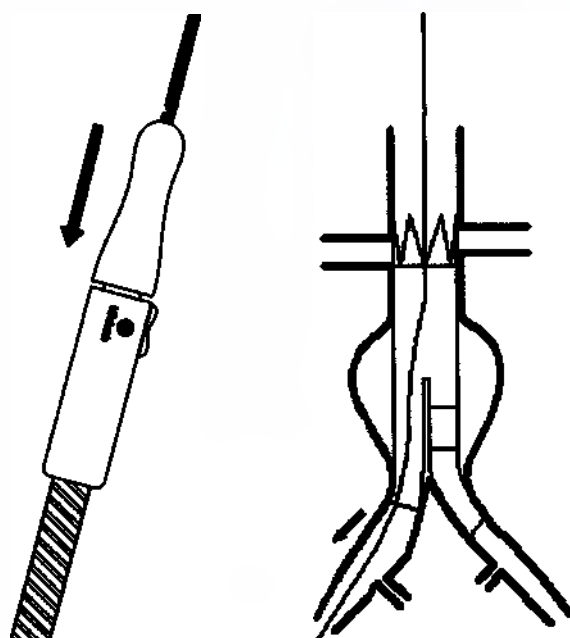

Fig. 12 Deploy the long branch of the AAA Stent Graft
- Rapidly deploy the long branch of the AAA Stent Graft. Hold the front grip of the delivery system stationary, then unlock the trigger and pull the slider grip along the screw gear to fully deploy the stent graft. (Fig. 12)